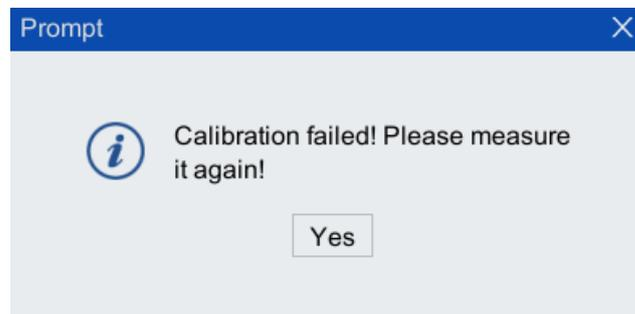

Figure 5-59 "Calibration failed, please re-measure!" prompt dialog box
Step3. After all calibrations are completed, click <Calculation> button at the bottom of Figure 5-58 to calculate the error. If the error exceeds the range, "Calibration Failed, Please measure it again!" dialog box will pop up, as shown in Figure 5-59. Then you need to re-calibrate until the error is within the range; if the error is within the range, "Calibration successfully,save it or not?" dialog box will pop up, as shown in Figure 5-59. Click <Yes> button, and "Save succeeded" dialog box will pop up, as shown in Figure 5-61. Then the calibration is completed.